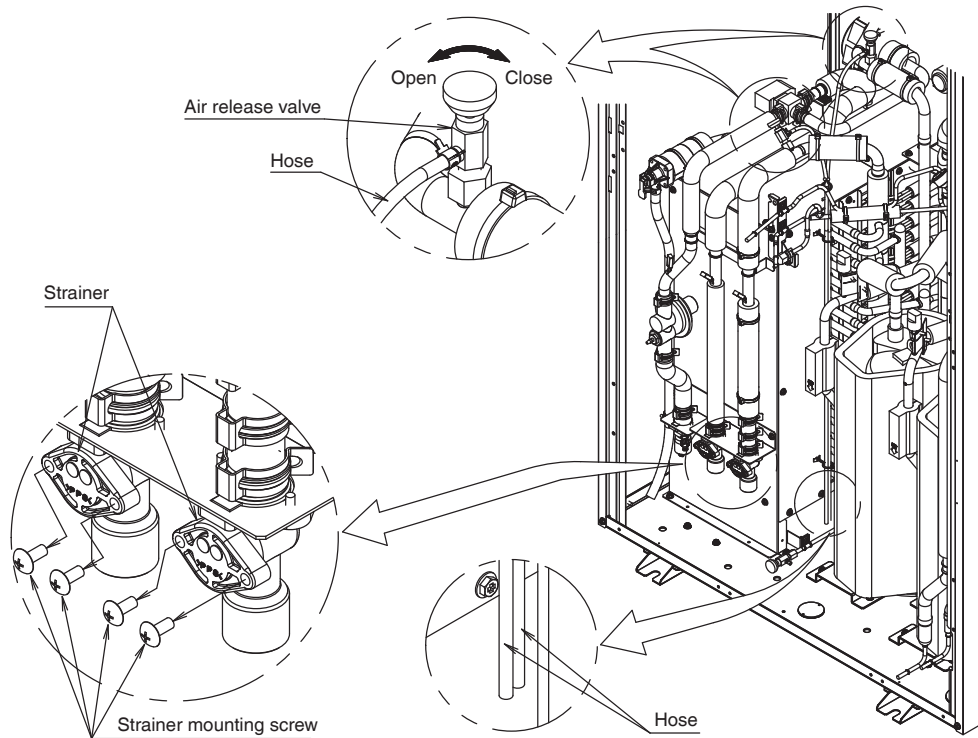

Fig. 36
- (1) Open the front panel (lower).
- (2) Open the gate valve of the circulating water piping and hot water piping between the cascade unit and the hot water storage tank to allow water to flow through the machine.
- (3) Open both air release valves (refer to Fig. 36) to release air from the water piping in the cascade unit.**
- (4) After releasing air, be sure to close the valve.